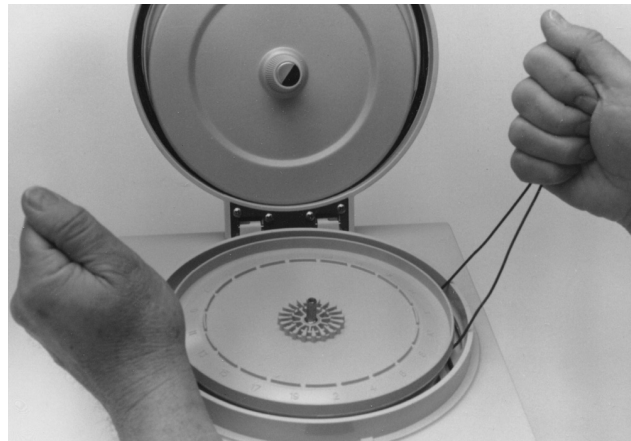

Figure 9-1. Prying Rotor From Motor Shaft with Removal Wire.
- b) Insert the removal wire under the rotor. Lift both sides of the wire to pry up the rotor (Figure 9-1).